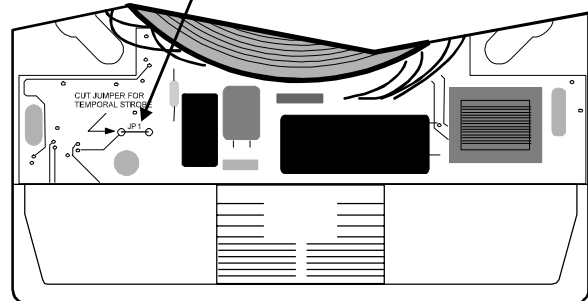

Figure 3: Strobe signal setting
3. If temporal strobe (private mode) operation is desired, cut jumper JP1. See Figure 3.